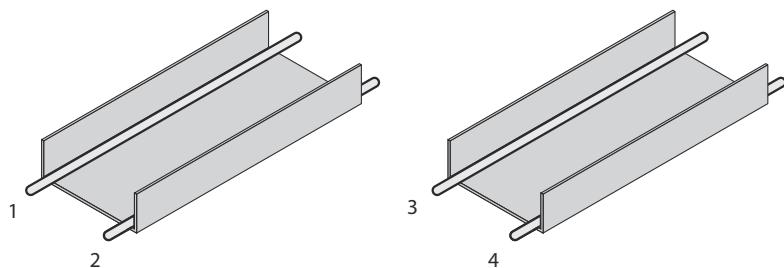
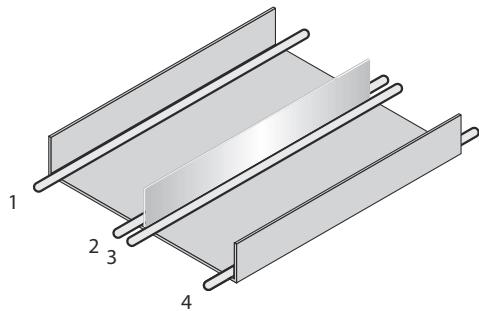

Figure 3: Ideal laying – Place cables in different cable channels
Figure 4: Alternative laying – Separate cables with metallic separators
- ▶ Cables in groups 1, 2, and 3, 4 must be routed in different cable channels or metallic separators must be used, see figure 3, page 28 and see figure 4, page 28. This applies particularly where cables of devices with a high level of radiated emission, such as frequency converters, are laid parallel to sensor cables.